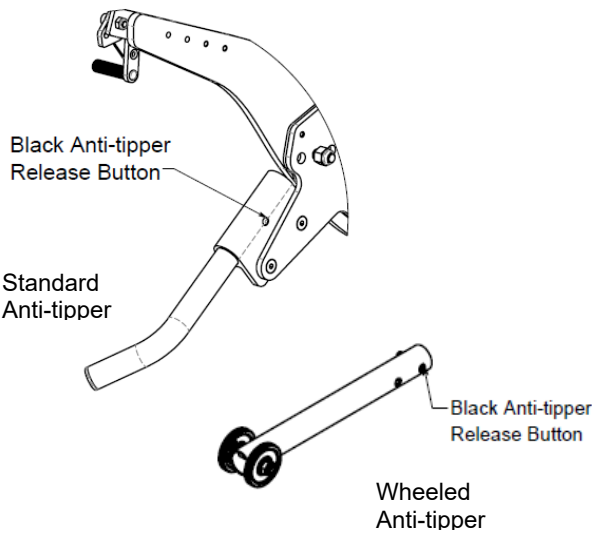

Figure 15.36: *Reverse Bentley Anti-tipper positioning*
- 1. Press and hold the release button on the anti-tipper tube. (See Figure 15.36)